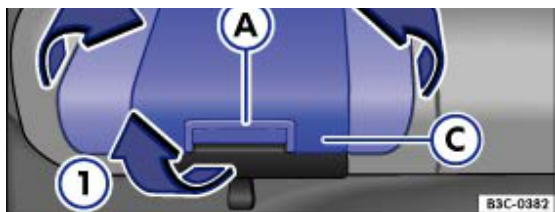

Fig. 81 Integrated child seat: folding out the seat cushion
- Using the release lever → *Fig. 81 ②*, pull the seat cushion forwards in the direction of the arrow → *Fig. 81 ①*.
- Fold both sides → *Fig. 81 ②* up in the direction of the arrows → *Fig. 81 ②*.
- Push the seat cushion → *Fig. 81 ③* to the rear in the direction of the arrows → *Fig. 81 ③* until it engages in place.